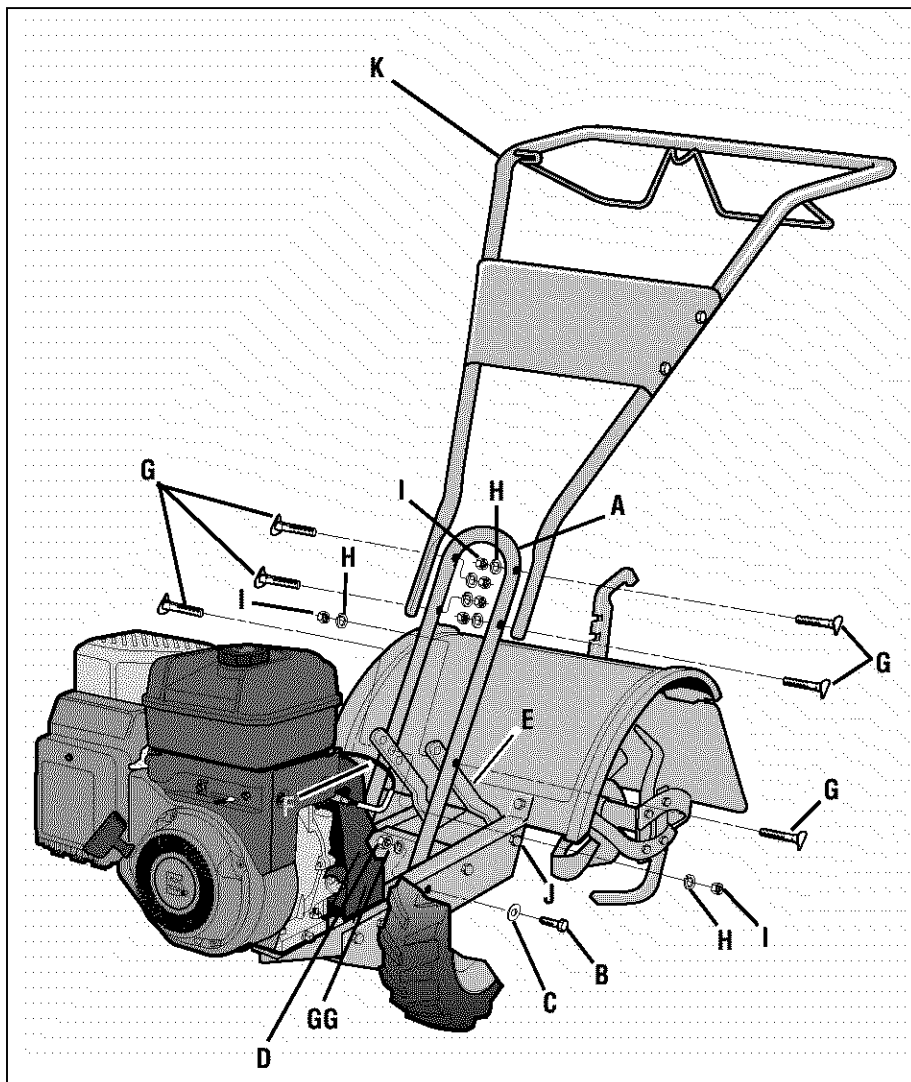

Fig. 2-2: Attach handlebar (5.5 HP Model shown).
1	Handlebar Support (see A, Fig. 2-2)
1	Handlebar Assembly (see K, Fig. 2-2)
1. Loosely attach the legs of the handlebar support (A, Fig. 2-2) to the inner sides of the tiller frame using two 3/8"-16 x 3/4" hex hd. screws (B), 3/8" flat washers (C), 3/8" lock washers (GG) and 3/8"-16 hex lock-nuts (D).
2. There are three height adjustment holes in the two handlebar support brackets (E and F, Fig. 2-2). Use a setting that will position the handlebars at approximately waist level when the tines are 3"-4" into the soil. Loosely attach the support brackets to the handlebar support (A) using two 5/16"-18 x 1-1/2" screws (G), 5/16" split lockwashers (H) and 5/16"-18 hex nuts (I). **NOTE:** If a support bracket will not move, loosen attaching screw (J) and nut.
3. Attach the handlebar assembly (K) to the handlebar support (A) using four 5/16"-18 x 1-1/2" screws (G), 5/16" split lockwashers (H) and 5/16"-18 hex nuts (I). Tighten the four screws securely.